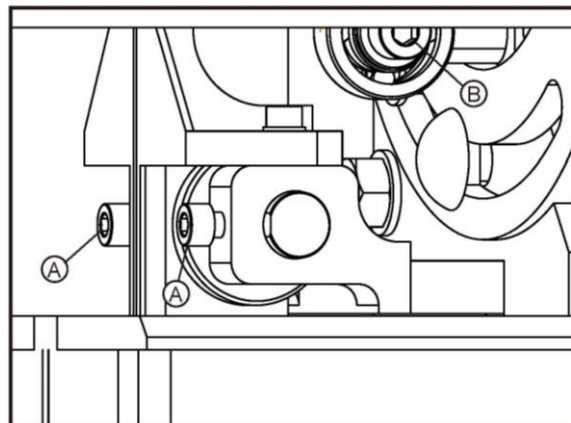

Fig.4.5.2
- To face plate should lightly touch the blade, to prevent vibration during operation and ensure correct direction of cutting. The positioning of these face plate is controlled by screw "A" (Fig.4.5.2), once they have been adjusted, tighten the screw "A" (Fig.4.5.2); they should be 2 mm behind the teeth of the blade. The thrust shaft prevents excessive backward movement of the blade whilst in operation, and should be 1-2 mm from the back of the blade: this can be adjusted by screw "B" (Fig.4.5.2).